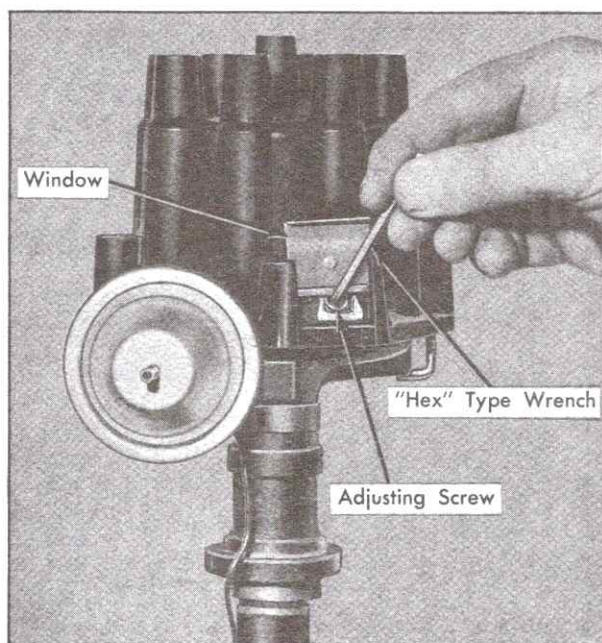

Fig. 6-21 Adjusting Distributor Points
2. Lift adjustment window and insert Allen wrench into head of adjusting screw, Fig. 6-21.
1. Lift adjustment window and insert Allen wrench into head of adjusting screw, Fig. 6-21.